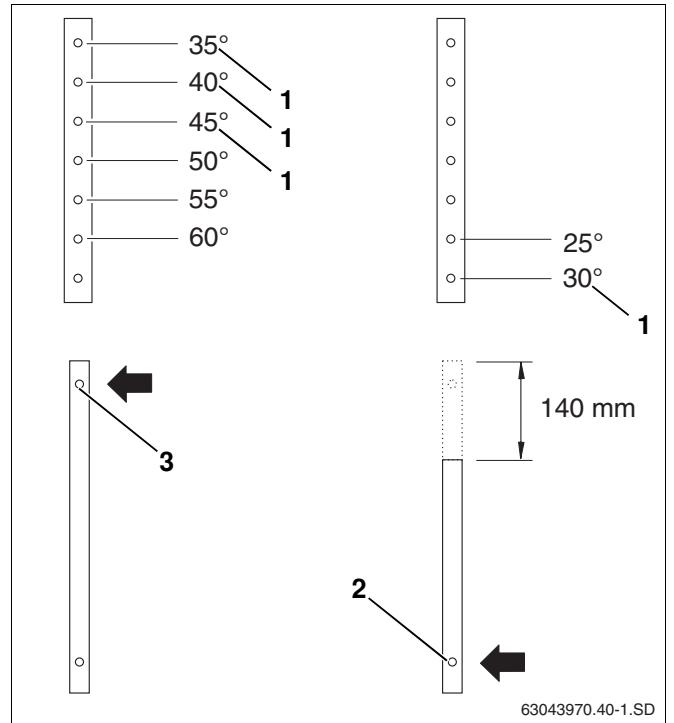

Fig. 13 Adjusting angle of inclination for landscape collectors
For landscape installation of a collector with an angle of inclination of 35° to 60°, use the uppermost hole on the lower telescopic rail (Fig. 13, **Item 3**).
For an angle of inclination of 25° and 30°, you must shorten the top of the lower rail by 140 mm and use the lower hole (Fig. 13, **Item 2**).
- For wall-mounted installation, use only the positions for the collector angles of inclination 30°, 35°, 40° and 45° (Fig. 13, **Item 1**).